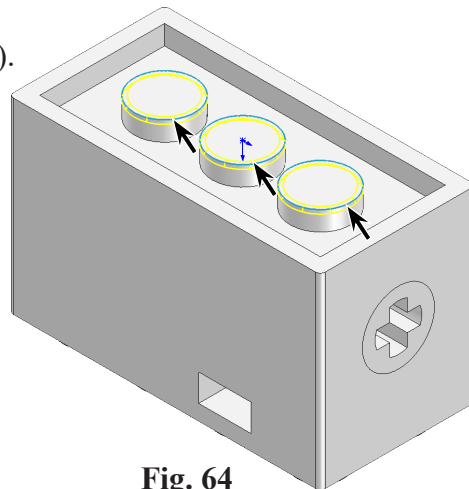

Fig. 64
Rotate view to bottom, **Fig. 64**. To rotate view, **Shift click the X axis of the Reference**
③ Radius  **.4**
click **top edge of the three studs (3)**, **Fig. 64**